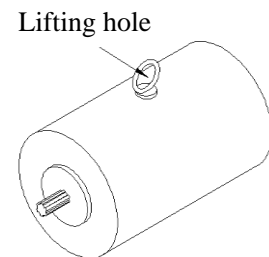

Figure 2-43
(5) Figure 2-43 shows the lifting of the walking motor.